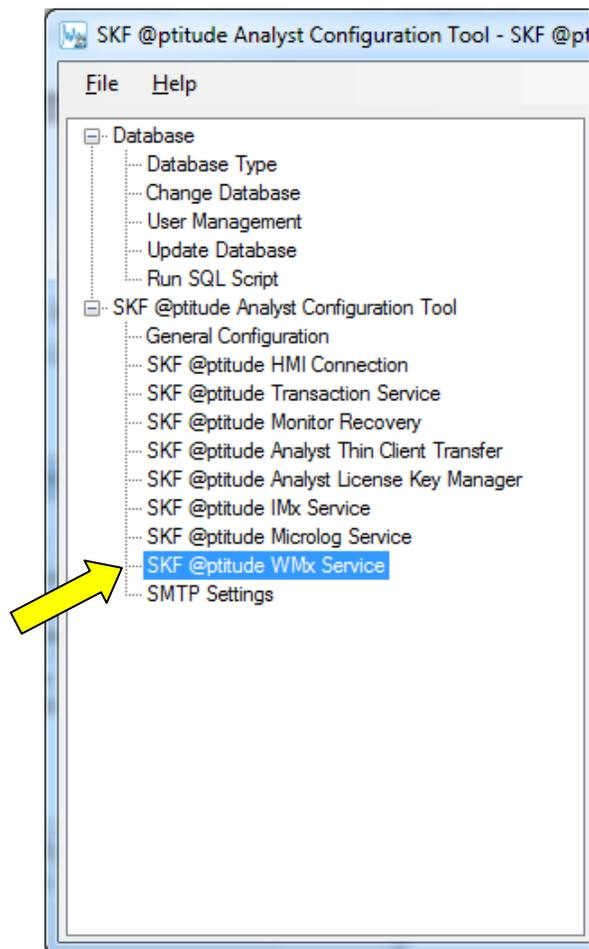

Figure 3. SKF @ptitude WMx Service
2. In SKF @ptitude Configuration Tool, select **SKF @ptitude WMx Service**. [Figure 3]